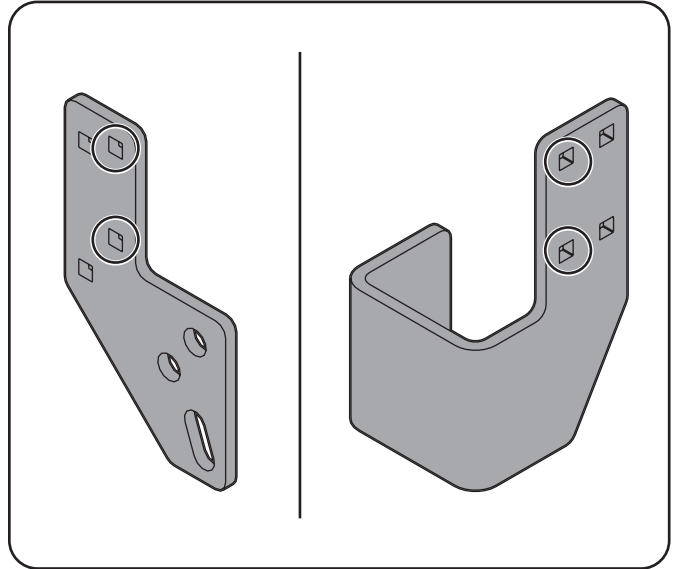

Figure 1-9
- Use Figure 1-9 below to locate the proper mounting hole locations on Left and Right Roller Brackets (#6 & #7) for your kit.